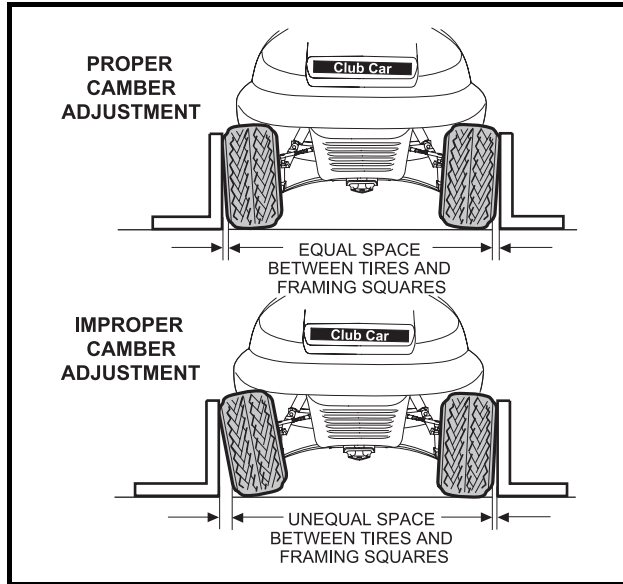
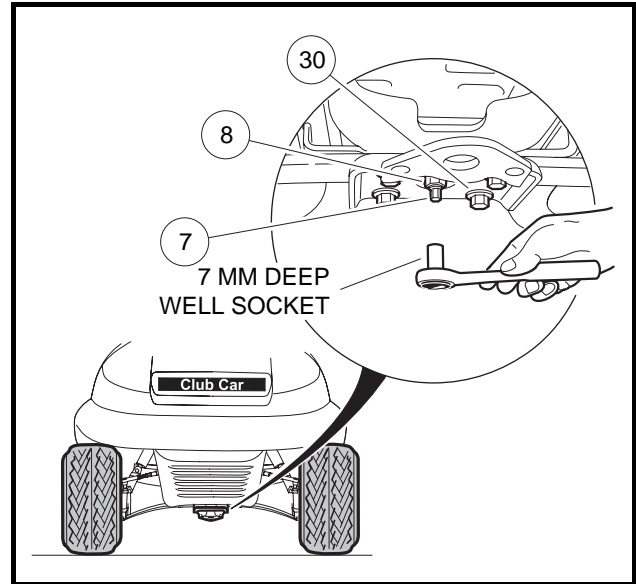
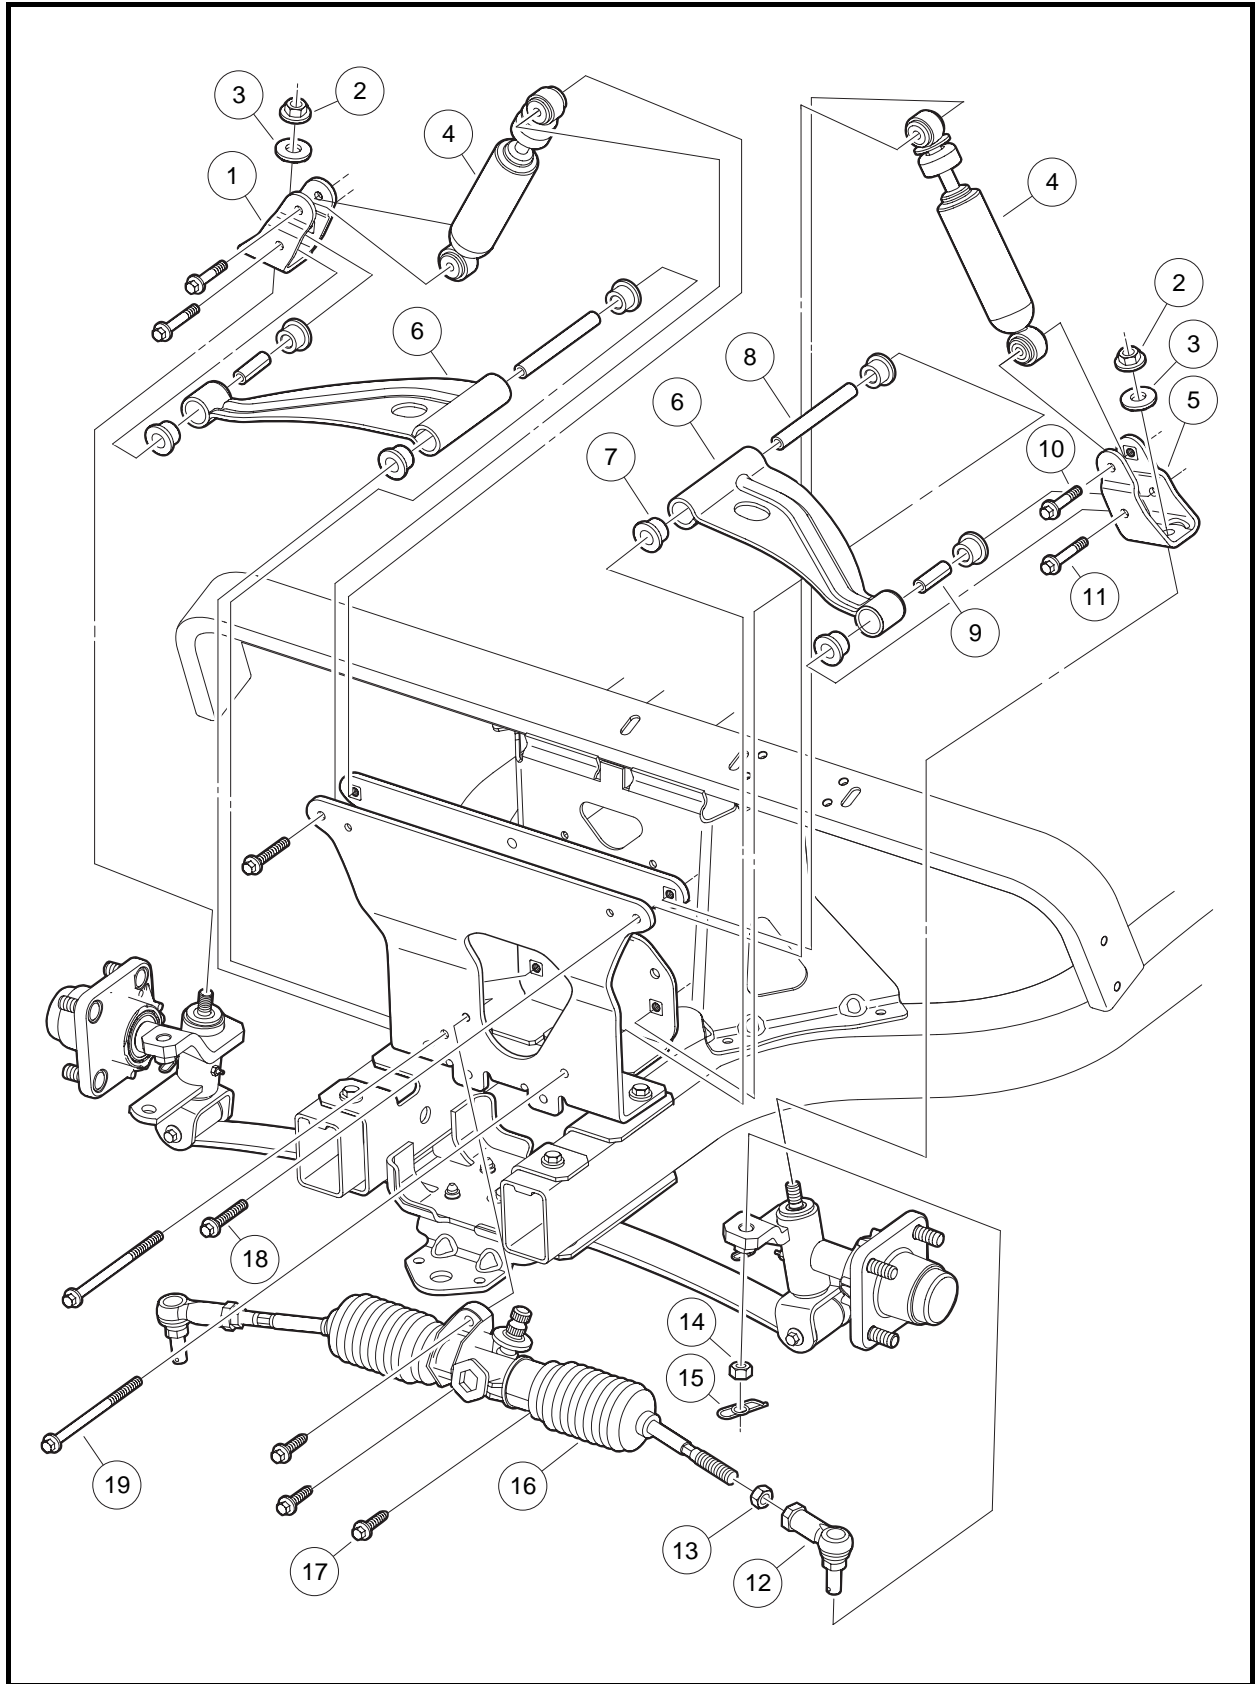
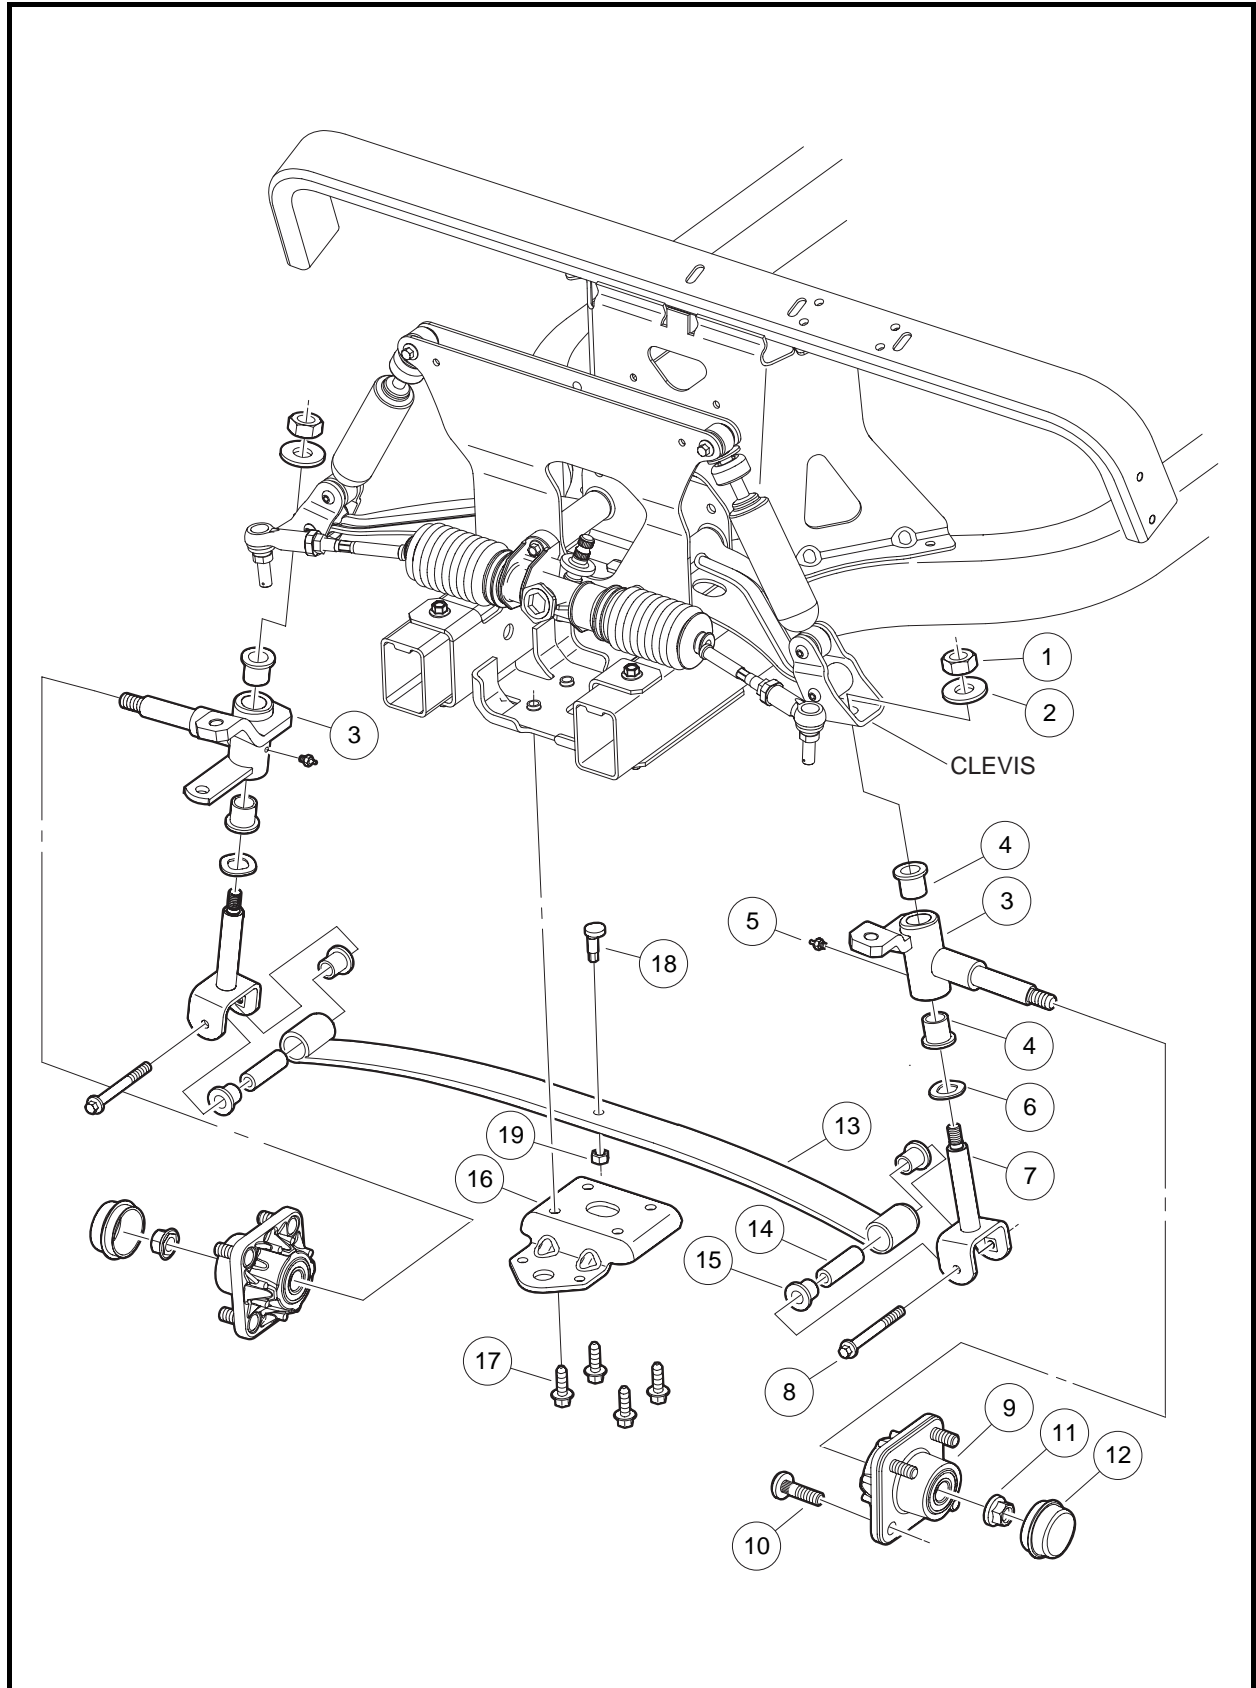

Figure 7-14 Check Camber
Figure 7-15 Adjust Camber
Figure 7-18 Upper Front Suspension Assembly
Figure 7-19 Lower Front Suspension Assembly
1. Check each front wheel with a framing square. At the floor (or ground), there should be an equal amount of space between each tire and the framing square (**Figure 7-14, Page 7-11**).
2. Loosen, but do not remove, the four bolts (17) that secure the leaf spring (13) to the bottom spring plate (16) (**Figure 7-19, Page 7-16**). **See also Figure 7-15, Page 7-11.**
3. Loosen, but do not remove, the hex nut (8) on the adjustment eccentric (7) (**Figure 7-15, Page 7-11**) in the center of the spring. **See also Figure 7-19, Page 7-16.**
4. Use a 7 mm deep well socket to rotate the eccentric (**Figure 7-15, Page 7-11**).
5. After adjusting camber, use a crisscross pattern to tighten the four spring retaining bolts (17) (**Figure 7-19, Page 7-16**) to 23 ft-lb (31 N·m). Then roll the vehicle forward one full tire revolution and recheck the camber. **See also Figure 7-14, Page 7-11.**
6. Tighten the hex nut (8) on the adjustment eccentric (7) to 10 ft-lb (13.5 N·m) (**Figure 7-15, Page 7-11**). **See also Figure 7-19, Page 7-16.**
1. Loosen jam nuts (13) to allow later rotation of the tie rod ends (12) (**Figure 7-18, Page 7-15**).
2. Remove the retaining pins (15) and retaining nuts (14).
1. Thread tie rod ends (12) onto steering gear to a depth of 1/2 inch (12.5 mm) (**Figure 7-18, Page 7-15**).
2. Install tie rod ends (12) into the spindle tabs. Install the retaining nuts (14) and retaining pins (15) (**Figure 7-18, Page 7-15**).
3. Remove the bolts (8) from the bottom of each kingpin (7) **(Figure 7-19, Page 7-16).**
4. Remove the four bolts (17) and bottom spring plate (16).
5. Remove leaf spring (13).
6. Check the condition of the urethane bushings (15) and steel sleeves (14). Replace any that are worn or damaged.
1. Install urethane bushings (15) and steel sleeves (14) into leaf spring eyes **(Figure 7-19, Page 7-16).**
2. Install leaf spring (13), bottom spring plate (16), and four bolts (17). Using a crisscross pattern sequence, tighten bolts to 23 ft-lb (31 N·m).
3. Install spring in kingpins (7) with bolts (8). Tighten to 17 ft-lb (23 N·m).
2. Remove retaining pins (15) and nuts (14), then remove tie rod ends (12) from the tabs on the spindles **(Figure 7-18, Page 7-15).**
3. Remove the nut (1) and conical washer (2) from the top of the kingpin (7) **(Figure 7-19, Page 7-16).**
5. Slide the spindle (3) off the kingpin (7).
6. Remove the wave washer (6) and inspect it. If the washer is broken or has a wave bottom to wave crest height dimension of less than 0.040 inch (1 mm), it must be replaced.
7. Remove bolt (8) from bottom of kingpin (7) and remove kingpin.
9. Inspect the bushings (4). If the bushings are worn or damaged, remove them and press in new ones.
2. Install the kingpin (7) over the leaf spring eye. Insert the bolt (8) **(Figure 7-19, Page 7-16).** Tighten the bolt to 17 ft-lb (23 N·m).
3. Install the wave washer (6) on the kingpin.
4. Install the steering spindle on the kingpin. Place upper clevis over the kingpin threads and install conical washer (2) and nut (1). Tighten the nut to 50 ft-lb (68 N·m).
5. Attach the tie rod ends (12) to the spindle tabs, than install and tighten the nuts (14) to 70 ft-lb (95 N·m). Install the retaining pins (15) **(Figure 7-18, Page 7-15)**.
3. Remove bolts (17) and move rack and pinion to allow clearance for bolt (19) **(Figure 7-18, Page 7-15)**.
5. Remove the control arm (6).
6. Inspect the bushings (7) and sleeves (8 and 9) in the control arm and replace them if necessary.